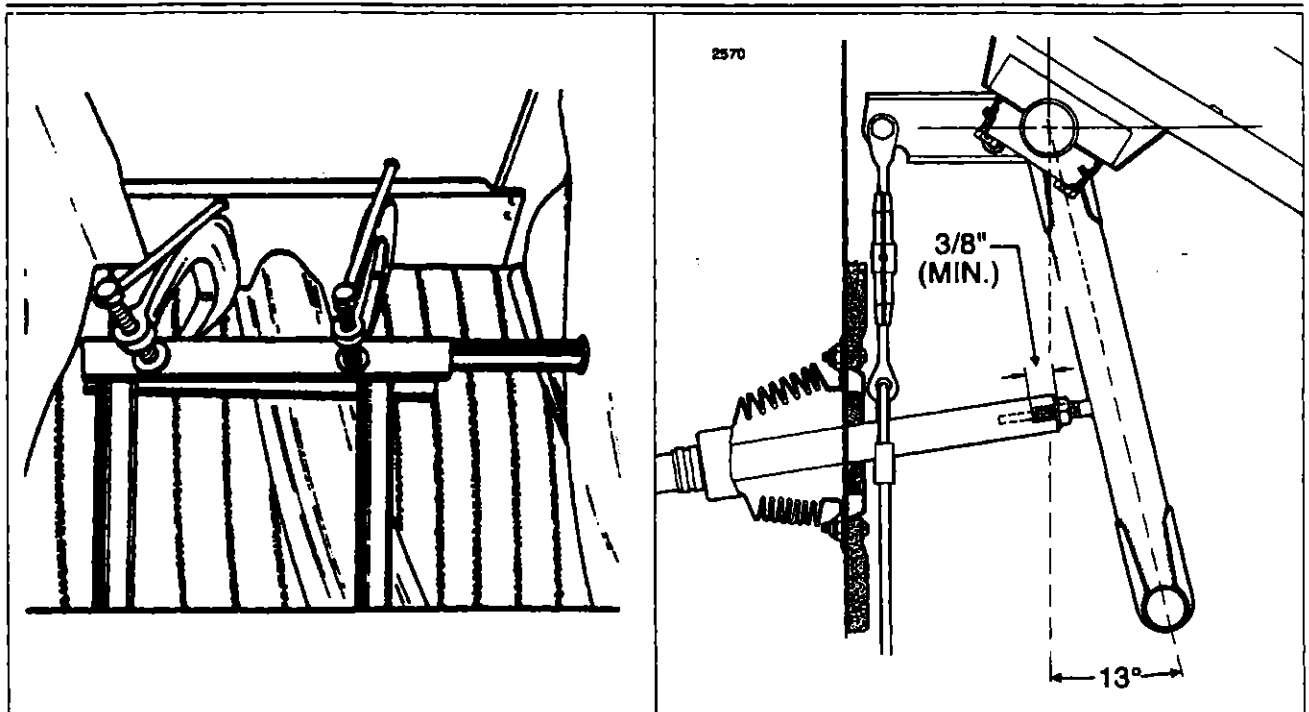

Figure 6-4.
- (e) Stand in front of the nose landing gear and orient the tire with the chalk line. Sight along the center rib of the tire. With the rudder pedals clamped in neutral position (refer to Figure 6-4), adjust the rod ends of each nose gear steering rod to position the cockpit rudder pedals fore and aft. The centered angle of the rudder pedals is 13 degrees aft of the vertical position (refer to Figure 6-5) with the airplane level. Place a bubble protractor against the pedal steering tube to check this angle. Do not attempt to make the adjustment by means of one rod end bearing, but divide the adjustment between the bearings at each end of the steering rod. A three-eighths inch minimum thread engagement must be held. Check by inserting a wire in the check hole of the rod.
With the rudder pedals clamped in neutral position (refer to Figure 6-4), adjust the rod ends of each nose gear steering rod to position the cockpit rudder pedals fore and aft. The center line of the rudder pedals is 13 degrees aft of the vertical position (refer to Figure 6-5) with the airplane level. Place a bubble protractor against the pedal steering tube to check this angle. Do not attempt to make adjustments by means of one bearing but divide the adjustment between the rod end bearings at each end of the rod. A three-eighths inch minimum thread engagement must be held.